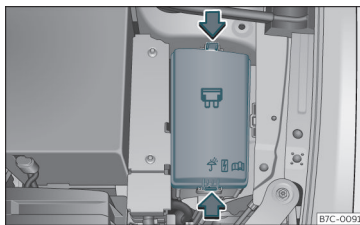

Fig. 90 In the engine compartment: lid of the fuse box.
- Press the locking tabs to release the fuse box cover >>> **Fig. 90**.